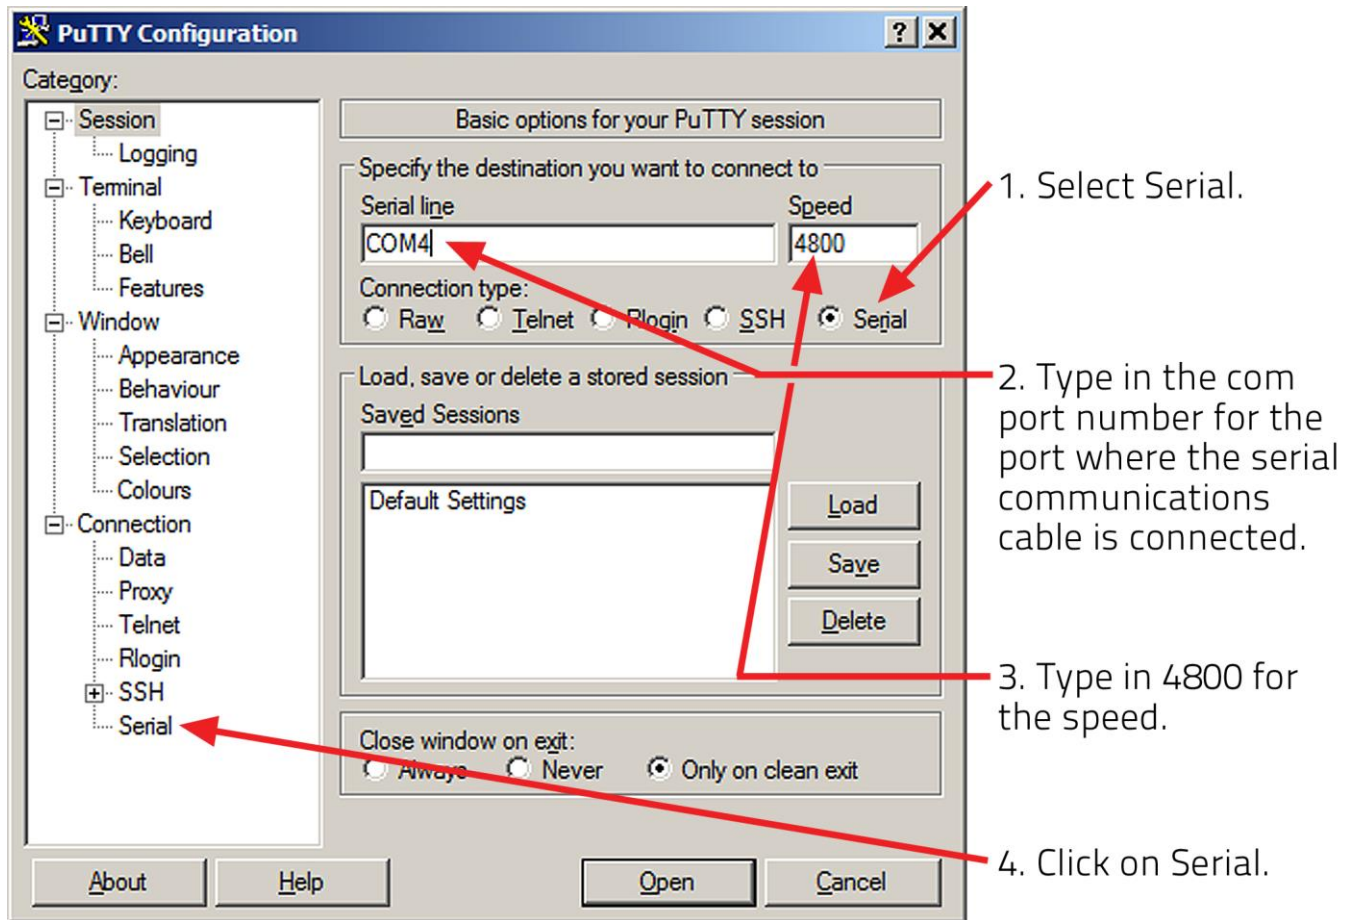

Figure 3-14. PuTTY's Session Configuration Panel
PuTTY's Session Configuration Panel is displayed (figure 3-14).
5. Follow the steps on figure 3-14.